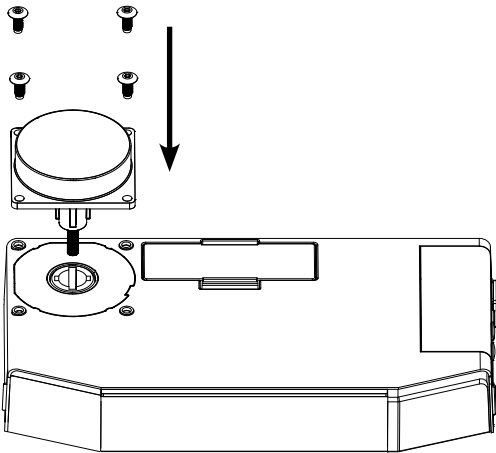

Fig.1
- Use M8*16 bolts to fix C-rail converter and Multi-Drive (Figure 1).